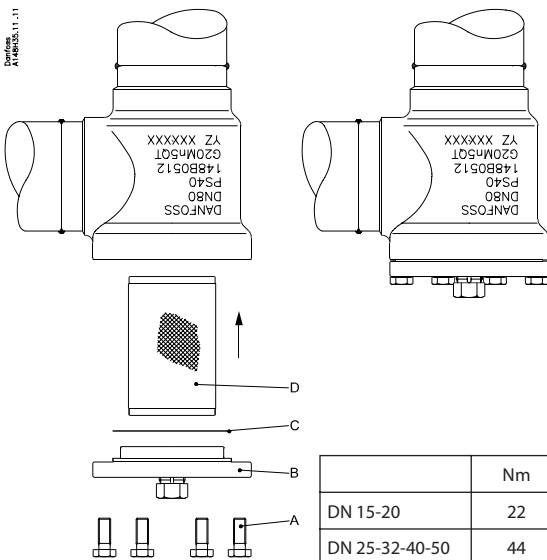

Fig. 3
Tighten the top cover with a torque wrench, to the values indicated in the table (fig. 3).
**Tightening (fig. 3)**
Tighten the top cover bolts (pos. A) with a torque wrench according to the table in fig. 3
**Dismantling the valve (fig. 3)**